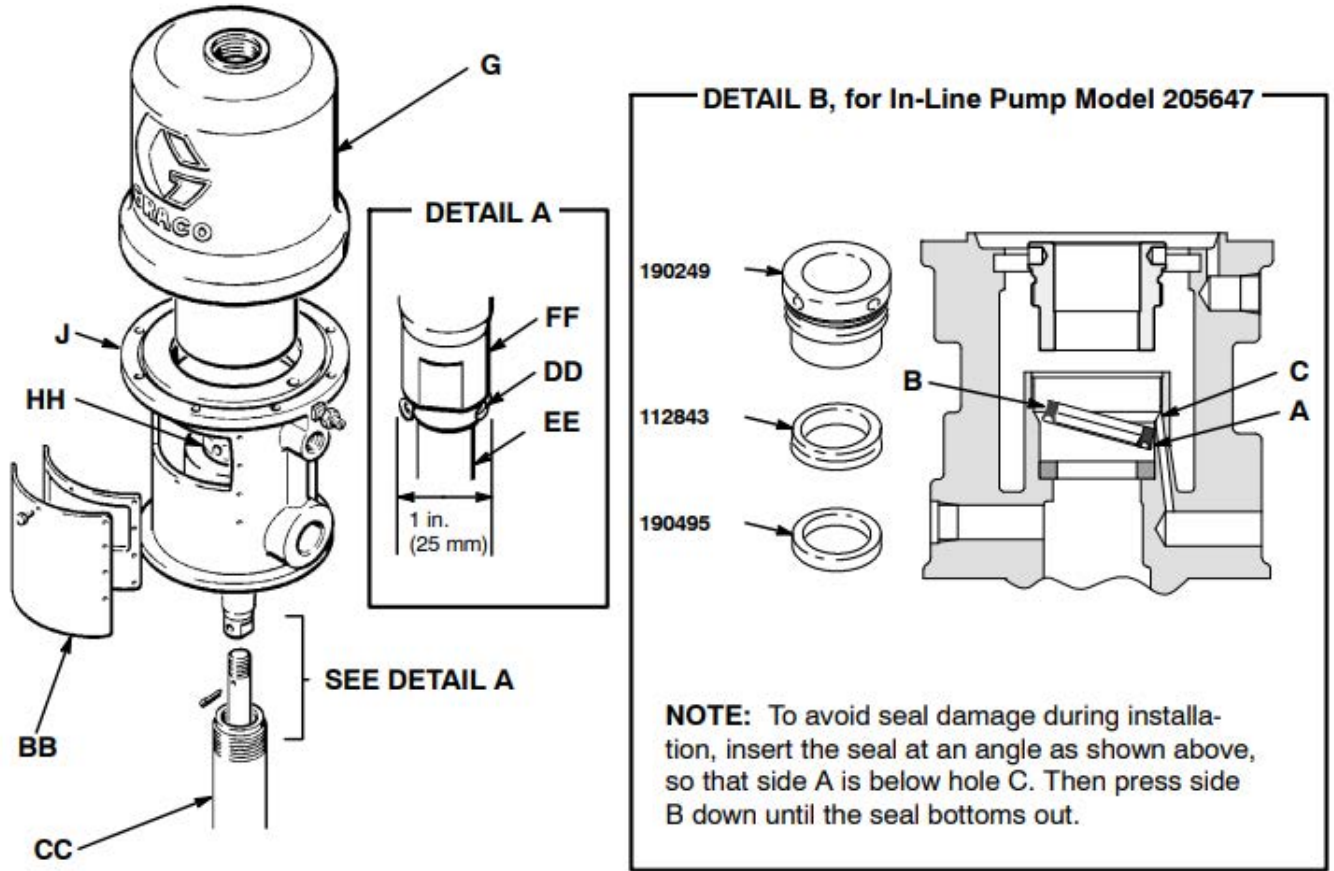

FIG. 5: In-Line Pump Model 205647 and 206078
NOTE: See FIG. 5 on page 11 and **Parts** on page 13.
When reinstalling cotter pin (DD), always spread and flatten the pin (both the head and prongs) around the rod to within a 1 in. (25 mm) total diameter. See Detail A in FIG. 5 on page 11.